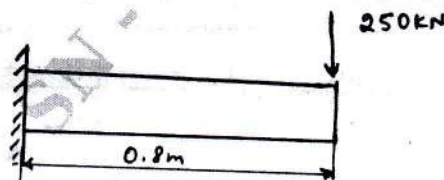

Fig Q5(b)
b. A cantilever beam subjected to point load of 250kN as shown in Fig Q5(b). Determine the deflection at free end Take $E = 200\text{GPa}$, $I = 4 \times 10^6 \text{ mm}^4$.